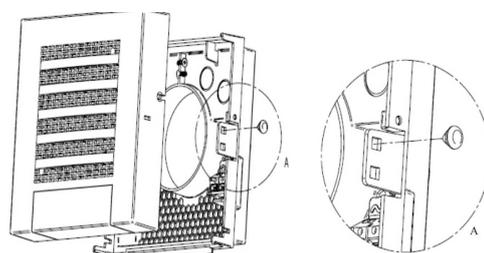

Figure 3
- Retirer le pion anti-clipsage (Figure 3)